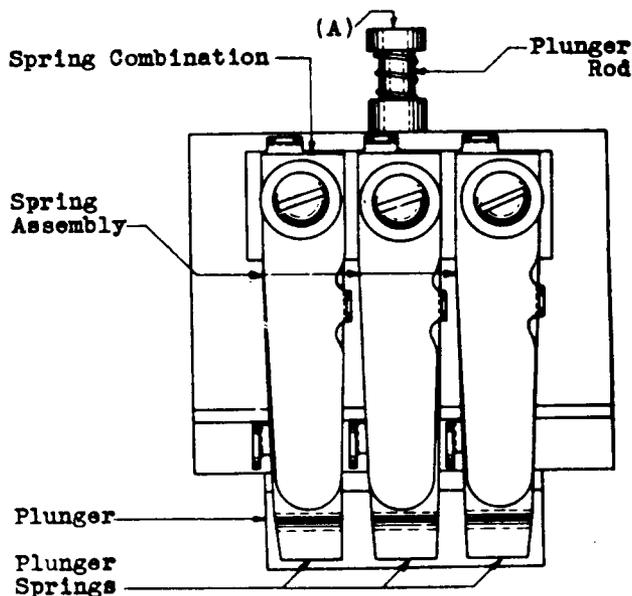

Fig. 6 - 370 Type Key
(b) Fig. 6(A): On keys not equipped with a key lever the plunger rod shall move freely through its bearings and when released unrestrained shall return to its normal position with a snap.
2.11 Plunger Operate Pressure — Fig. 6(A):